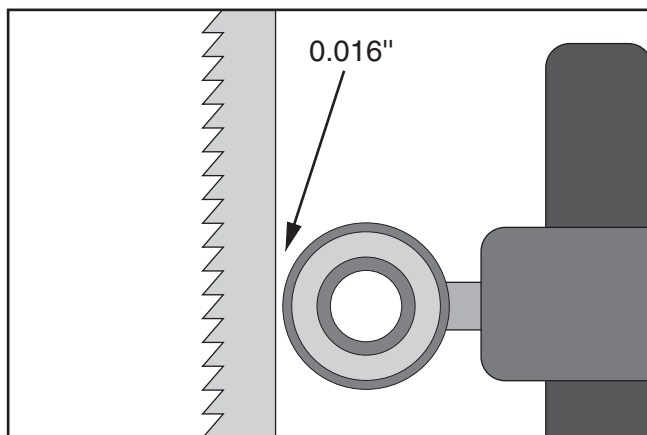

Figure 24. Bearing positioned 0.016" away from back of blade.
3. Position support bearing approximately 0.016" away from the back of the blade, as illustrated in **Figure 24**. This can be measured with a feeler gauge.